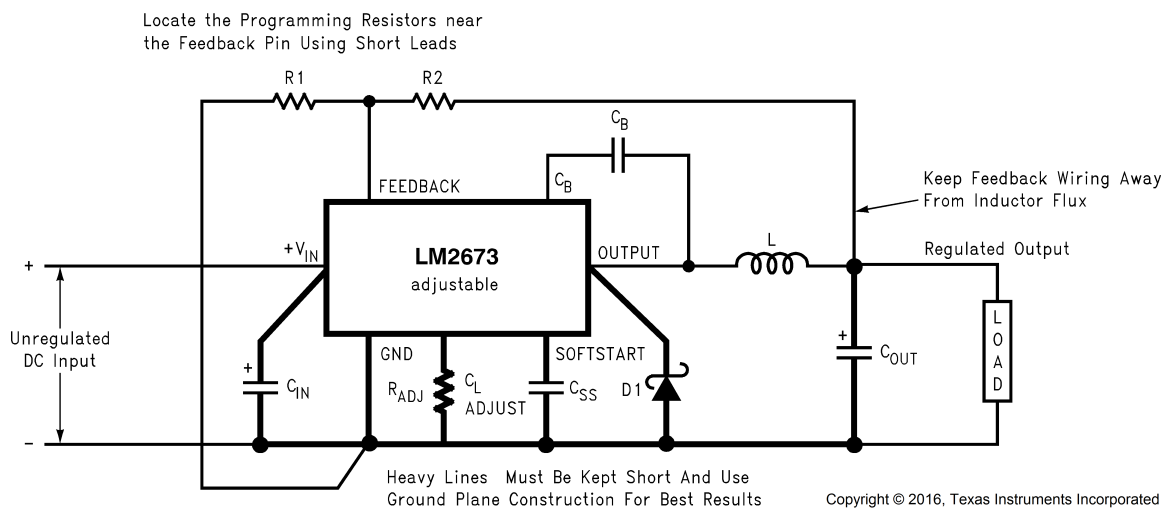

Figure 19. Basic Circuit for Adjustable Output Voltage Applications
**Step 2:** Select an LM2673S-ADJ. To set the output voltage to 14.9 V, two resistors need to be chosen (R1 and R2 in Figure 19). For the adjustable device the output voltage is set by the following relationship: